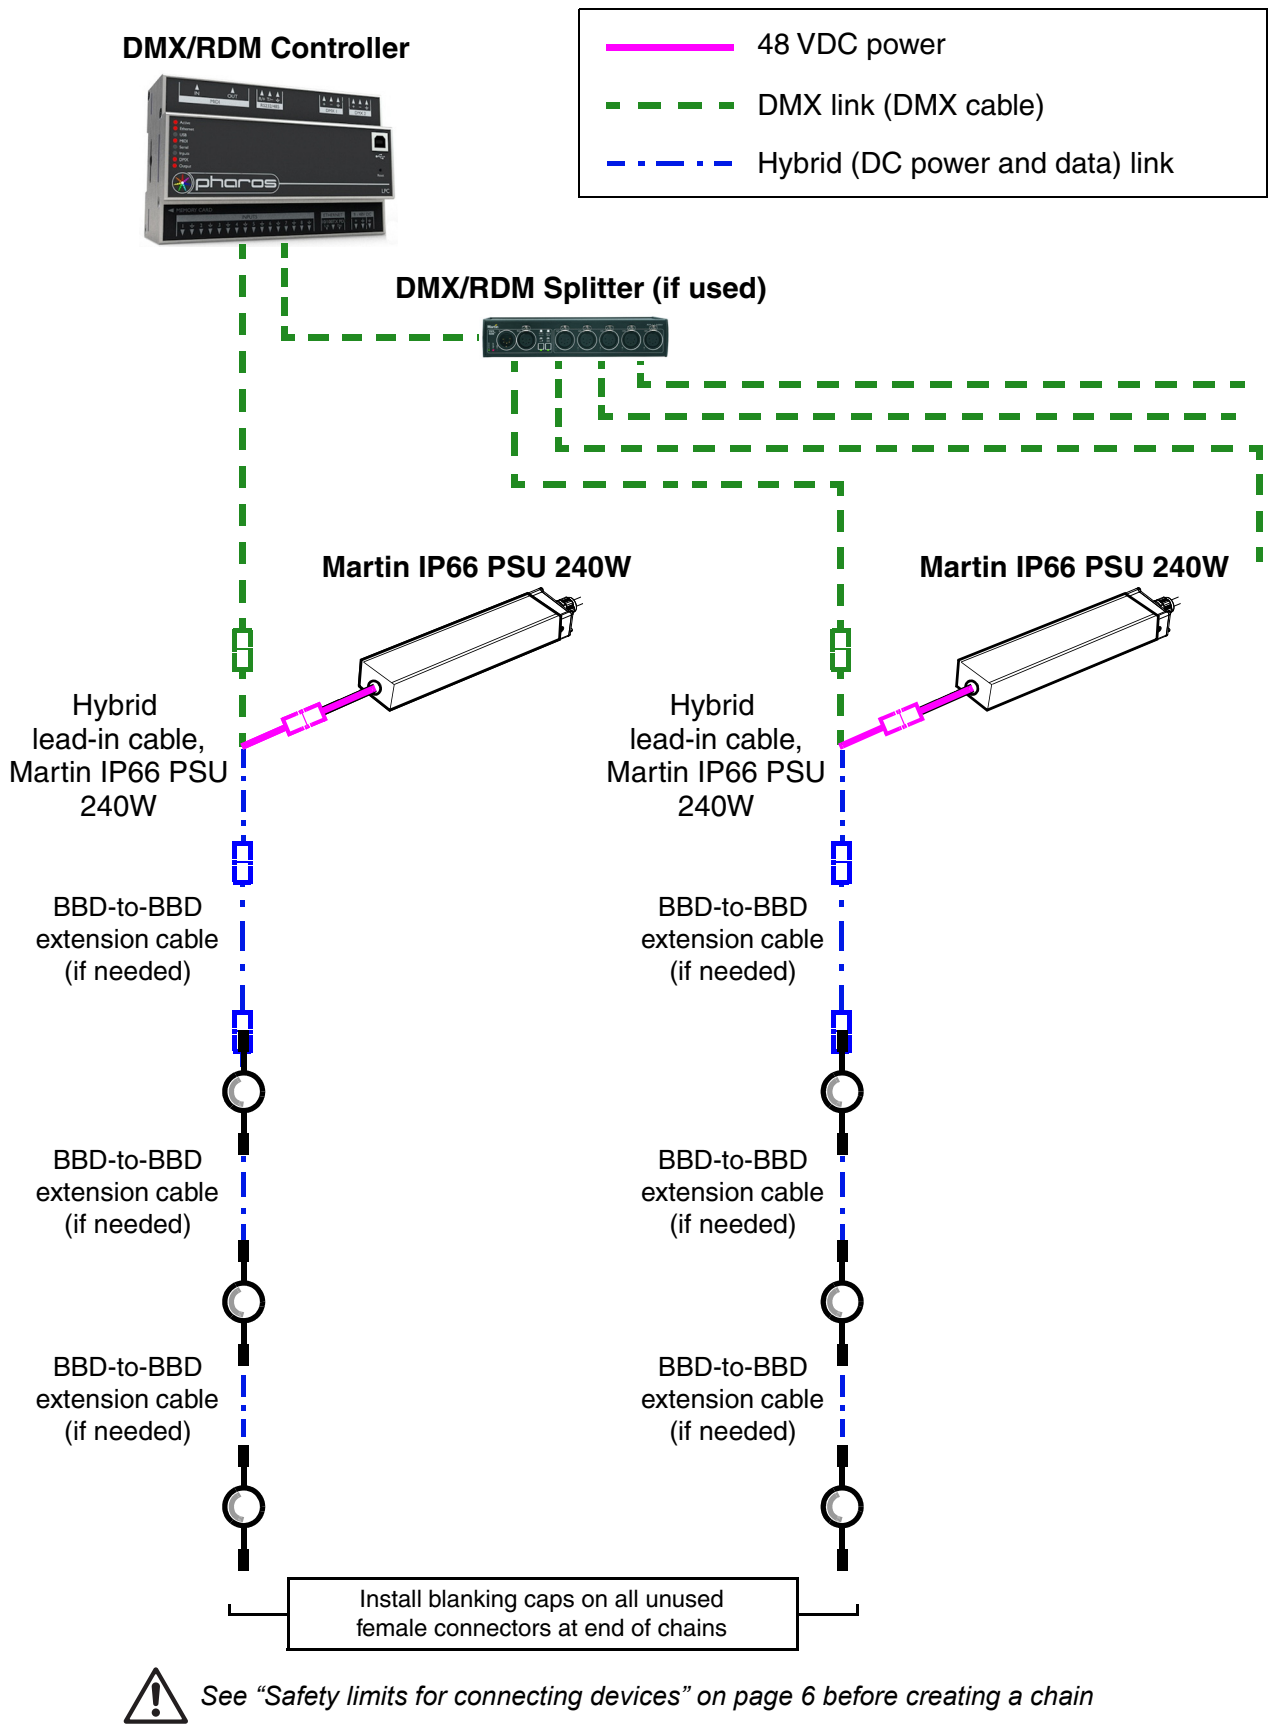

Figure 10: DMX-controlled system using the Martin IP66 PSU 240W
1. See Figure 10 on page 21 for an overview of this type of installation